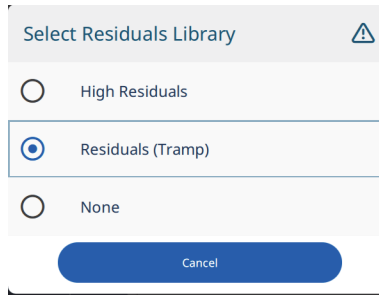

Figure 2-69 Select Residuals Library dialog box
2. In the **Select Residuals Library** dialog box, select a check-box to load a residuals library (see Figure 2-69 on page 83).